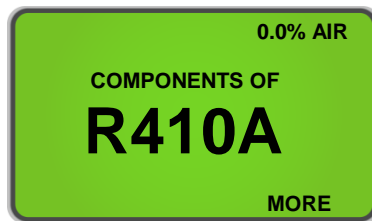
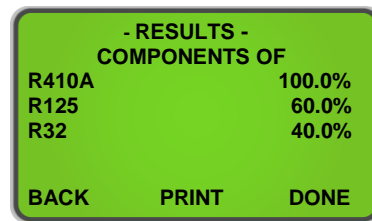

Figure 17
Figure 18
The *Ultima ID Pro*™ has the ability to detect blend ratios that have been altered by contamination. As stated in section **2.8 Pure Refrigerants**, the blends that can be Identified and Analyzed are **R22, R32, R134a, Hydrocarbons (HC), R404A, R407C and R410A**. If one of the multi-component refrigerant blends has incorrect component ratios, it will display as shown below in (Figure 17). To see the component concentrations, press the 'MORE' button (Figure 18). Refer to section **2.10 Print the Test Results & Channel Data** to print.